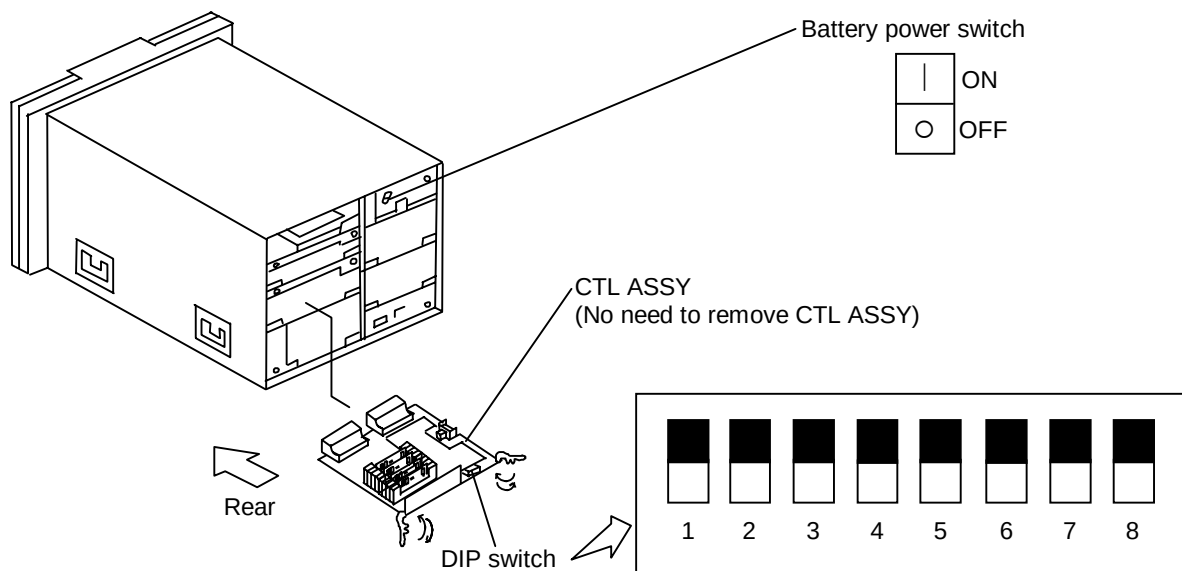

Figure 3.3.2 Inside Construction of the Subsystem
- (2) Verify that all the DIP switches on the CTL ASSY are set to "Off" (upper position). Note, no need to remove CTL ASSY. (See Figure 3.3.2.)